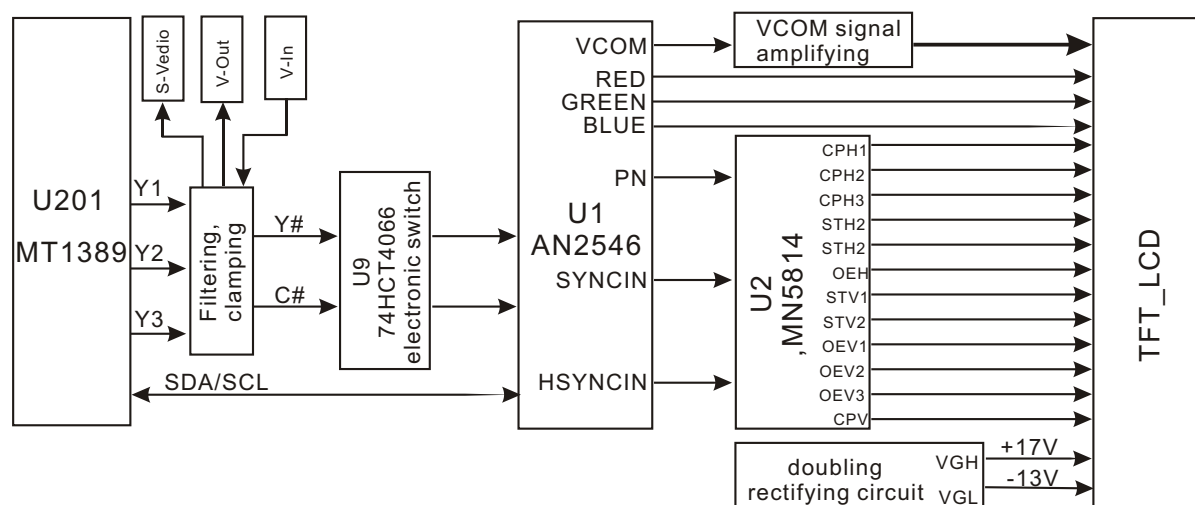

Figure 3.2.8.1 Video encoding and LCD—TFT drive circuit block circuit
1. Video encoding and LCD—TFT drive circuit block diagram is shown in the figure 3.2.8.1: